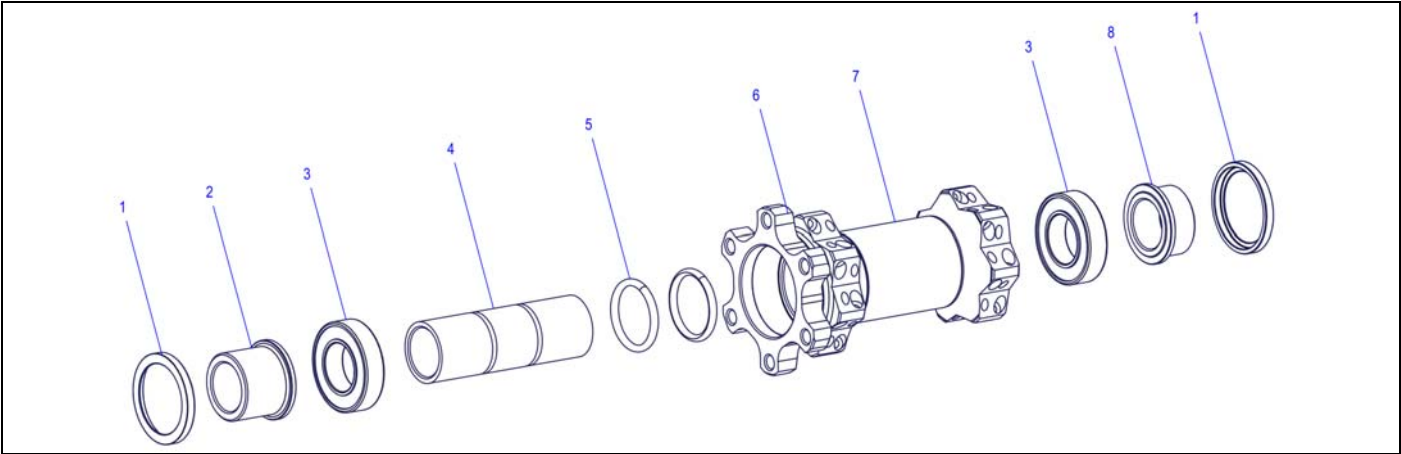

Figure 3-1: Overview: front wheel with pressed on adapters
1. Plug the mounting pin into one of the adapters (fig.3-1/2 or 8).
3. Remove the adapter (fig.3-1/2 or 8) and the cover (fig.3-1/1).
1. Push the spacer (fig.3-1/4) beside and place a spin drift on the edge of the ball bearing (fig.3-1/3).
5. Tap out the bearing (fig.3-1/3) on the disc-side.
1. Grease the bearing seats and the inner surface of the hub shell (fig.3-1/6).
2. Put a new bearing (fig.3-1/3) with the colored side outwards onto the bearing seat on the disc-side.
8. Slide the spacer (fig.3-1/4) with the O-rings (fig.3-1/5) into the hub.
- 9.** Put a new bearing (fig.3-1/3) with the colored side outwards onto the bearing seat.
- 13.** Tap in the bearing (fig.3-1/3) using a nylon hammer.
- 14.** Grease both bearings (fig.3-1/3).
1. Put the left adapter (fig.3-1/2) and the cover (fig.3-1/1) onto the hub.
2. Put the small diameter of the mounting sleeve onto the left adapter (fig.3-1/2).
4. Tap the cover (fig.3-1/1) onto the hub.
1. Put the right adapter (fig.3-1/8) and the cover (fig.3-1/1) onto the hub.
2. Put the big diameter of the mounting sleeve onto the right adapter (fig.3-1/8).